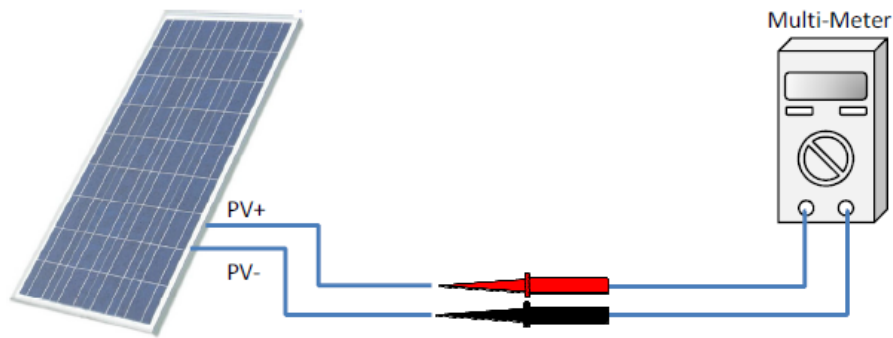

Fig. 4-10 Polarity check
- Check the polarity before terminating the DC cables of PV strings according to the following steps, as shown in figure 4-10: